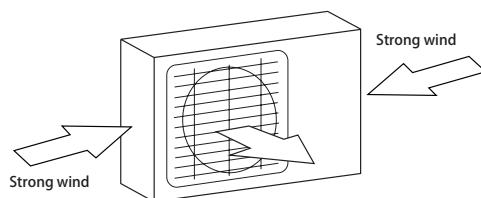

Fig. 6.1
- If the location is exposed to strong winds (for example: near a seaside), the unit must be placed against the wall to shelter it from the wind. If necessary, use an awning. (See Fig. 6.1 & 6.2)